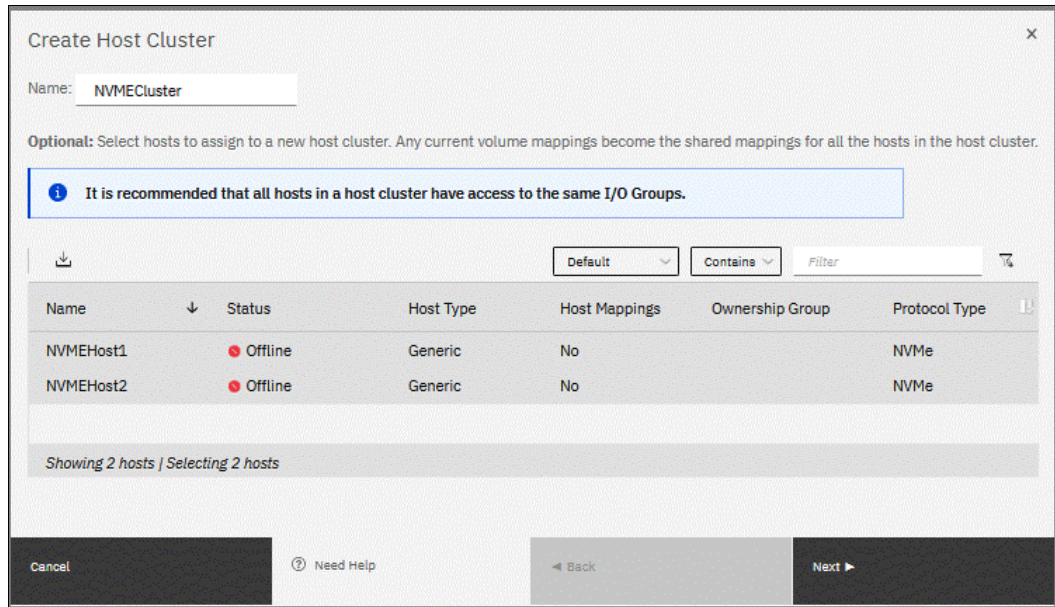

Figure 7-28 Host Cluster details definition
3. Enter a cluster name, and if applicable choose the ownership group that the hosts are a part of. Then, you can select the individual hosts that you want in the cluster object by pressing the Ctrl or Shift keys and selecting them, as shown in Figure 7-28 on page 435. Click **Next** after you are done.